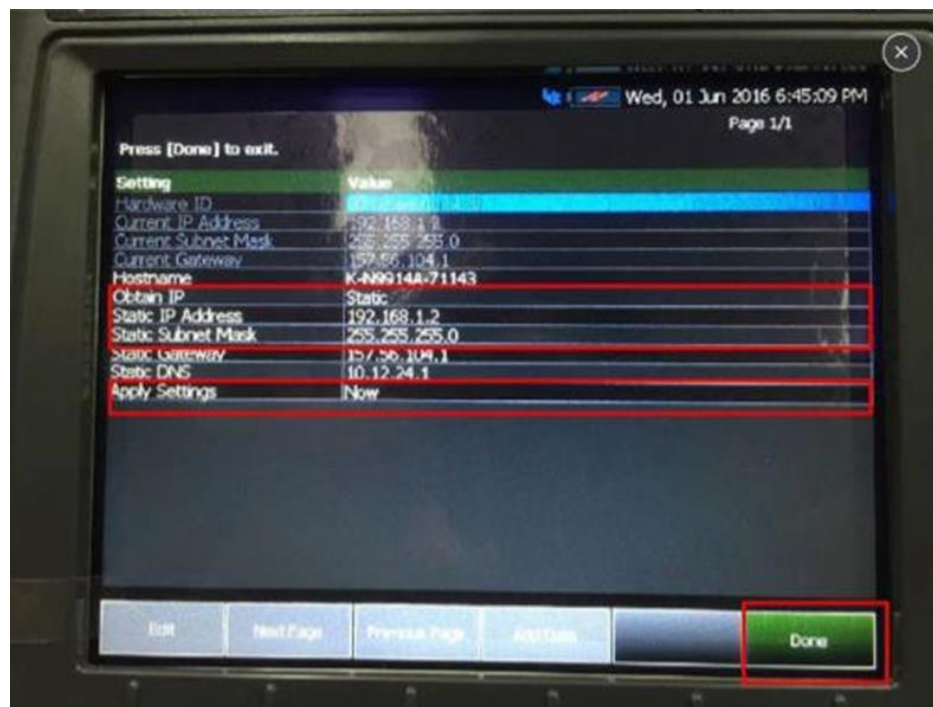

Figure 5. Configuring the FieldFox Handheld Microwave Analyzer
- 2) Set Static Subnet Mask to a subnet mask segment with the PC, as shown in Figure 5, and set the parameters. (All modifications within the red wireframe are set to the same with the following image).